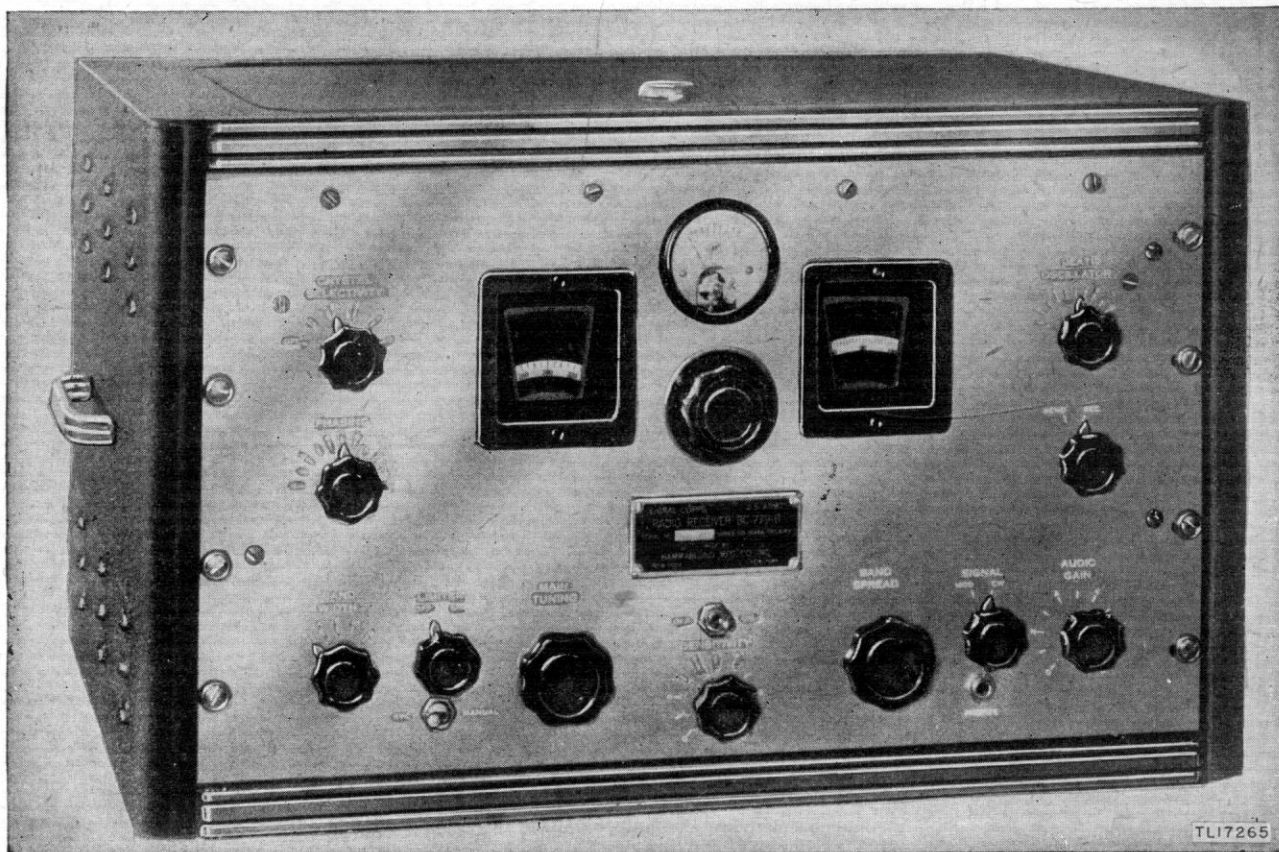
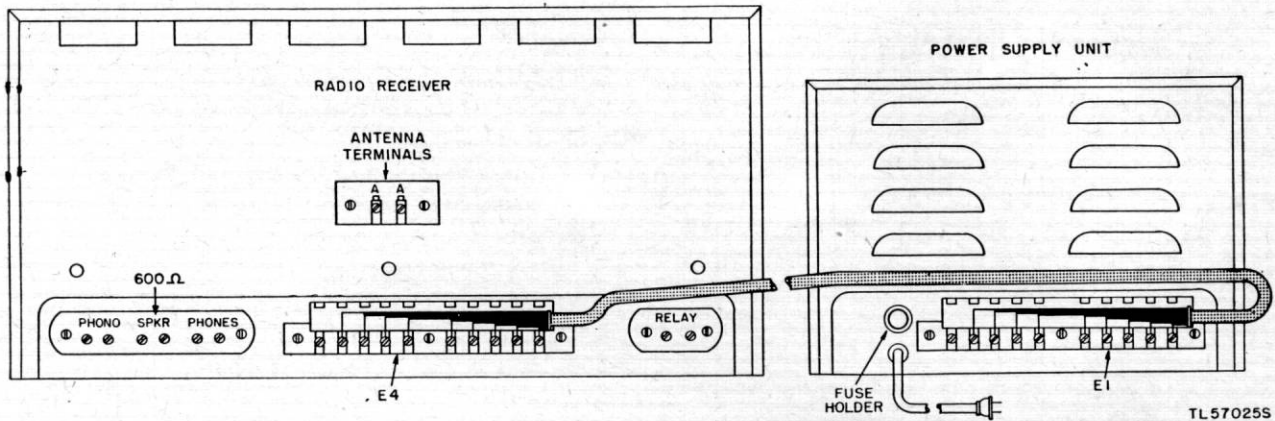

Figure 6. Radio Receiver BC-779-B in Cabinet CH-104-A.
Figure 10. Cable connections for a-c operation.
in Cabinet CH-104-A (fig. 6). The under side of the receiver chassis is equipped with a steel cover plate which has heavy, felt-covered feet in the corners. The rear of the chassis (fig. 10) is provided with a terminal strip which is used in making connection either to the power supply unit or to batteries. The S meter located at the top center of the receiver panel is not supplied with Radio Receiver BC-1004-D.
- (1) Remove the sheet metal covers from the terminal strip E4 on the rear of the receiver and from the terminal strip E1 on the power supply unit.
- (2) Make sure that all 10 screws on each strip are unscrewed at least three turns.
- (3) Attach one end of the connector cable to each terminal *exactly* as shown in figure 10 and
d. EARPHONES. Insert the plug of Headset HS-30 (or any other available headphone) into the PHONES jack (fig. 15), or connect it to the screw terminals marked PHONES on the rear of the chassis (fig. 10). No matching transformer is necessary.
o. SEND-RECEIVE SWITCH. This switch is provided for use when the receiver is used with an associated transmitter. The receiver is silenced when the switch is in the SEND position. This position allows the receiver to remain ready for instant use. The RELAY terminals at the rear of the receiver (fig. 10) are for convenience in connecting a relay to disconnect automatically the receiver in preference to operating the SEND-REC switch.
q. SPKR TERMINALS. These terminals on the rear of the receiver (fig. 10) are provided so that a permanent magnet type loudspeaker may be connected to the output of the receiver.